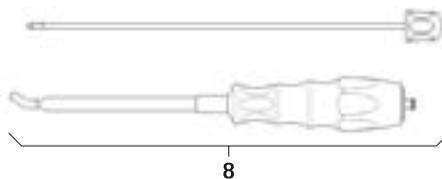

Fig. 3
- To dismount rod insertion instrument **8**, see Fig. 3: unscrew the inner part.